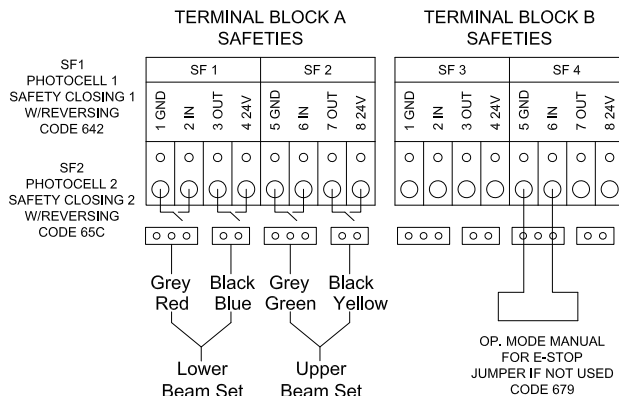

Figure 30: Photoeye & E-Stop Connections
1. Confirm the wiring to the photo eyes is intact as shown in Figure 30.
2. Confirm jumper for the emergency stop switch is installed as shown in Figure 30.